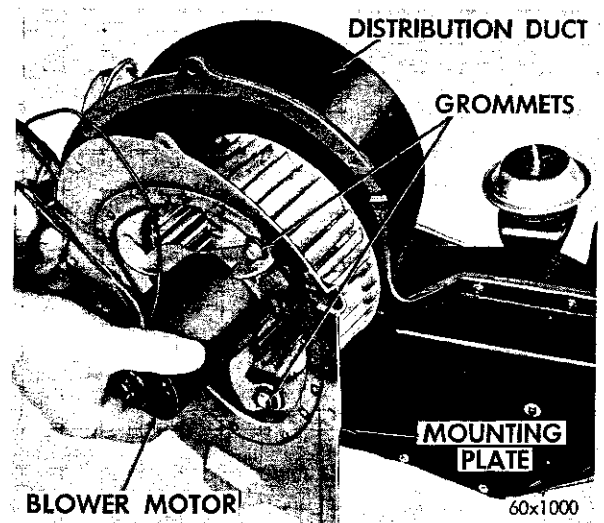

Fig. 50—Removing the Blower
(7) Remove the housing and the blower by pulling down and out of driver's compartment. Remove the blower, mounting plate and motor. (See Fig. 50).